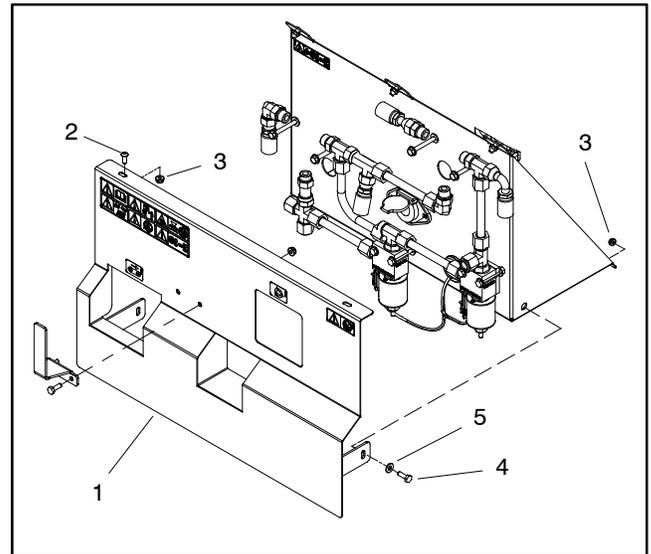

Figure 27
2. Remove hydraulic guard from machine to allow access to hydraulic controls (Fig. 27).
2. Install hydraulic guard to machine (Fig. 27).